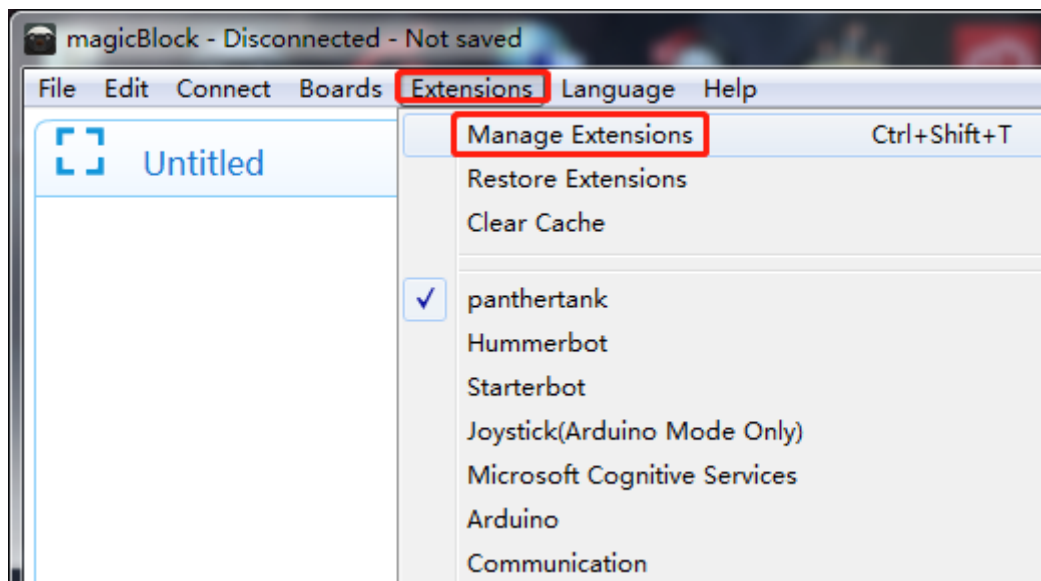

Figure 2-1
- 2) Open MagicBlock software and click "Extension Manager", as shown in Figure 2-1;